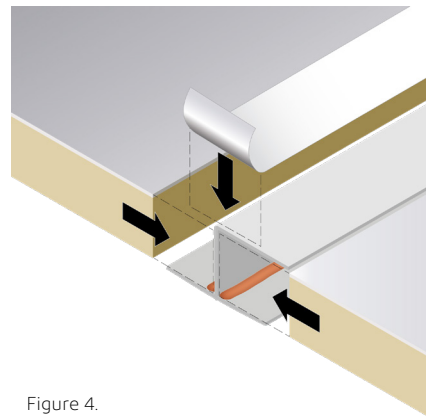

Figure 4.
1. Apply a chemically-compatible construction grade sealant to the PVC Clip Strip and install on exposed joint (Figure 4).